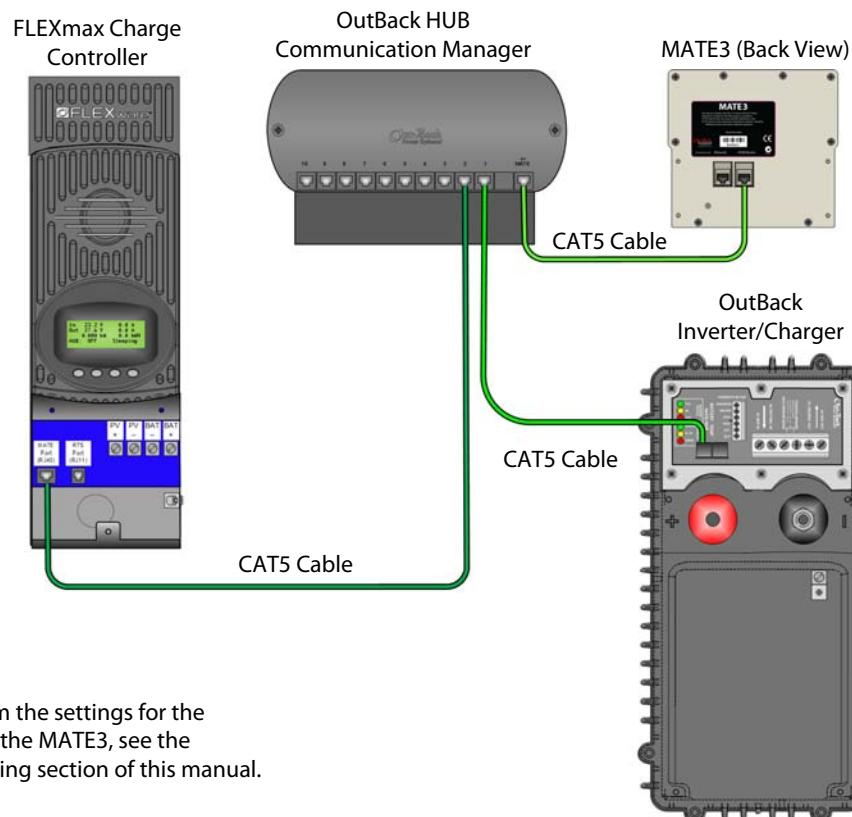

Figure 8 MATE3 Connections using a HUB Communication Manager
- MATE3 to HUB Communications Manager that connects to an inverter and a charge controller. See Figure 8.